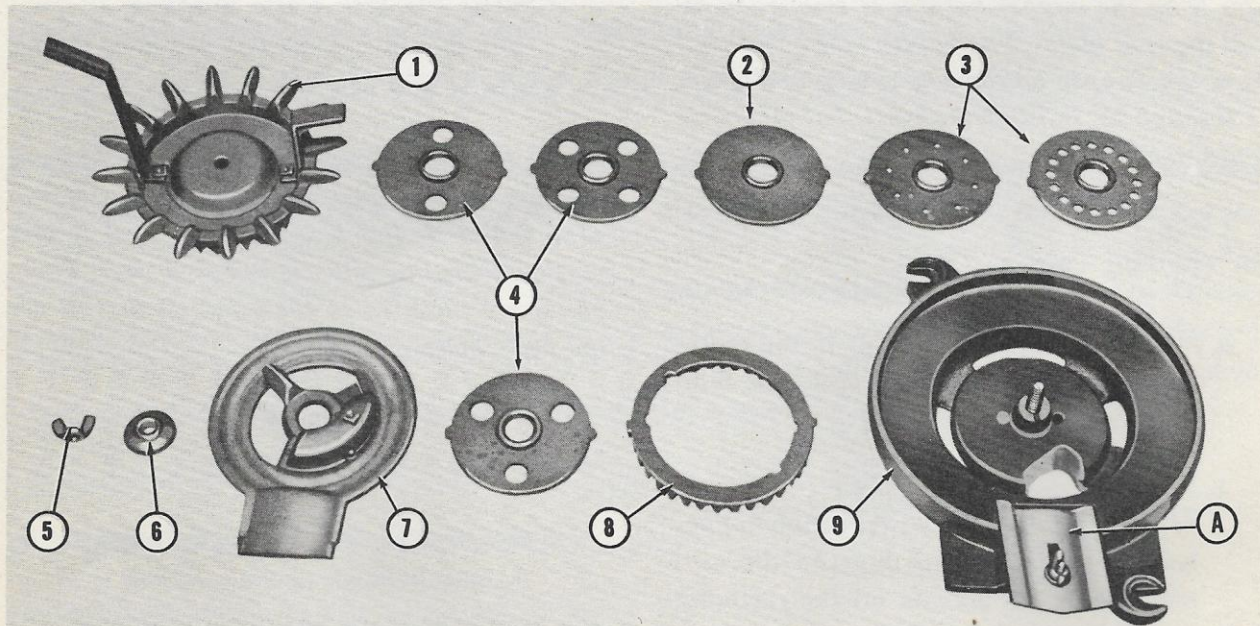
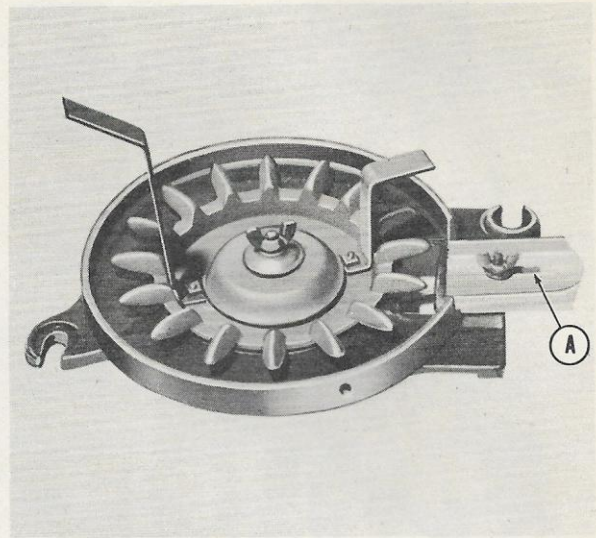

Figure 11
Figure 13
NOTE: It is not necessary to remove the hoppers from the hopper bottom assemblies to install the seed plates. The hoppers were removed from the hopper bottoms as shown in Figures 11 through 15, to illustrate parts that otherwise could not be seen.
- a. Place the retaining ring (8) in the center of the can bottom (9), Figure 11, with the gear teeth down.
- b. Place the desired corn plate (4), Figure 11, on the bolt in the center of the hopper bottom so the driving lugs on the seed plate fit in the notches on the retaining ring.
- c. Position the cut-off assembly (7), Figure
- d. When planting maize, sorghum or peas close the slide gauge (A) as shown in Figures 11 and 12.
NOTE: One pair of corn and pea plates (3) and one pair of blank plates (2), Figure 11, are also provided with the planter. The blank plates may be drilled to suit selected seed sizes. These plates are installed in the same manner as are the corn plates.
- a. Place the cotton plate (1), Figure 11, on the machine bolt in the center of the hopper bottom and secure with the collar (6) and wing nut (5). Figure 13 shows this unit assembled.
b. Close the slide gauge (A), Figure 13, until it almost touches the picker wheel and secure with the wing bolt.
j. Place the ring gears (8), Figure 11, and desired corn plates (4) on the seed hopper bottoms (9).
m. Secure the assembly with the collar (6), Figure 11, and the wing nut (5).